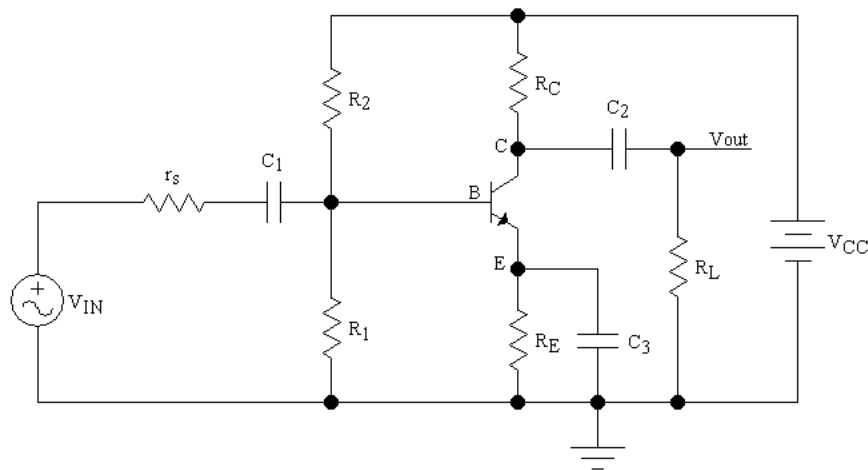

Figure 8.1 Transistor Amplifier Circuit
1. Draw the equivalent DC circuit for Figure 8.1.
2. Determine the DC load line for Figure 8.1.
3. For the circuit of Figure 8.1, with  $V_{CC} = 10V$ ,  $R_1 = 5.6k \Omega$ ,  $R_2 = 10k \Omega$ ,  $R_C = R_E = 1k \Omega$ ,  $R_L = 1k \Omega$ ,  $\beta = 105$ . Calculate the dc current  $I_{EQ}$ ,  $V_{BQ}$ ,  $V_{CEQ}$ ,  $I_{CQ}$ , and  $V_{EQ}$ .
4. Sketch the AC load line for Figure 8.1.
5. For the circuit of Figure 8.1, with  $V_{IN}$  a sinusoid of 5 kHz and  $V_{CC}=10V$ ,  $r_s = 10k\ \Omega$ ,  $R_1 = 5.6k\ \Omega$ ,  $R_2 = 10k\ \Omega$ ,  $R_C = R_E = R_L = 1k\ \Omega$ ,  $\beta=105$ ,  $C_1 = C_2 = C_3 = 100\ \mu F$ , draw the small signal equivalent circuit.
For the circuit of Figure 8.1,  $V_{IN}$  is a sine wave with a frequency of 5 kHz,  $V_{CC} = 12V$ ,  $R_C = 3.9k\ \Omega$ ,  $R_E = 470\ \Omega$ ,  $R_L = 1k\ \Omega$ ,  $\beta=105$ . Calculate  $V_{CQ}$ ,  $V_{BQ}$ ,  $V_{EQ}$ ,  $I_{CQ}$ ,  $I_{BQ}$ ,  $I_{EQ}$ ,  $R_1$ , and  $R_2$  for the maximum possible symmetrical swing. **Hint: First calculate  $I_{CQ}$  for maximum symmetrical swing. All the other values can easily be calculated.  $R_1$  and  $R_2$  should be less than 100 k $\Omega$ .**
1. Construct the circuit of Figure 8.1. Measure the DC values  $I_{EQ}$ ,  $V_{BQ}$ ,  $V_{CEQ}$ ,  $I_{CQ}$ , and  $V_{EQ}$ .
2. Construct the circuit of Figure 8.1. Measure the maximum input signal level for an undistorted  $V_{OUT}$  for a 5 kHz sine-wave input. Determine the  $A_v$  experimentally.
4. Construct the circuit of Figure 8.1. Measure  $V_C$ ,  $V_B$ ,  $V_E$ ,  $I_C$ ,  $I_B$  and  $I_E$  using the DMM.
5. Construct Figure 8.1, with the calculated values for  $R_1$ , and  $R_2$ .